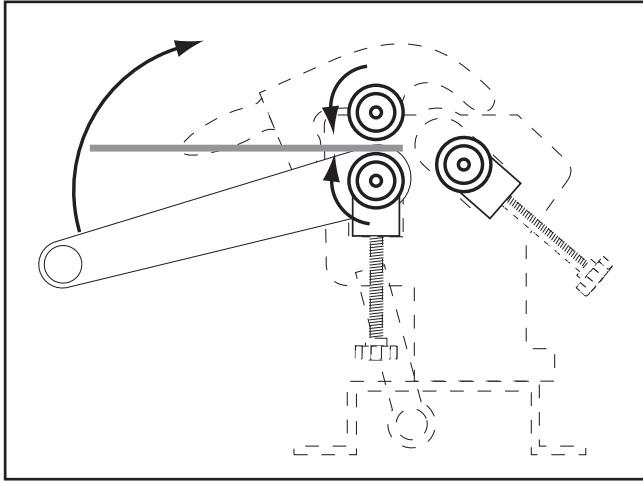

Figure 17. Feeding the workpiece.
2. Turn the crank clockwise to feed the workpiece until its front edge is directly above the rear roller, as shown in **Figure 17**.